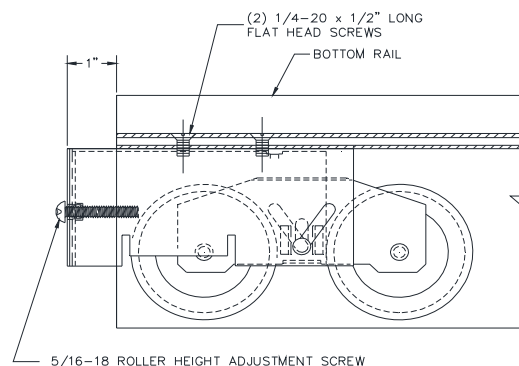

Figure 2
- Attach roller assembly to both ends of bottom rail as shown in figure 2.